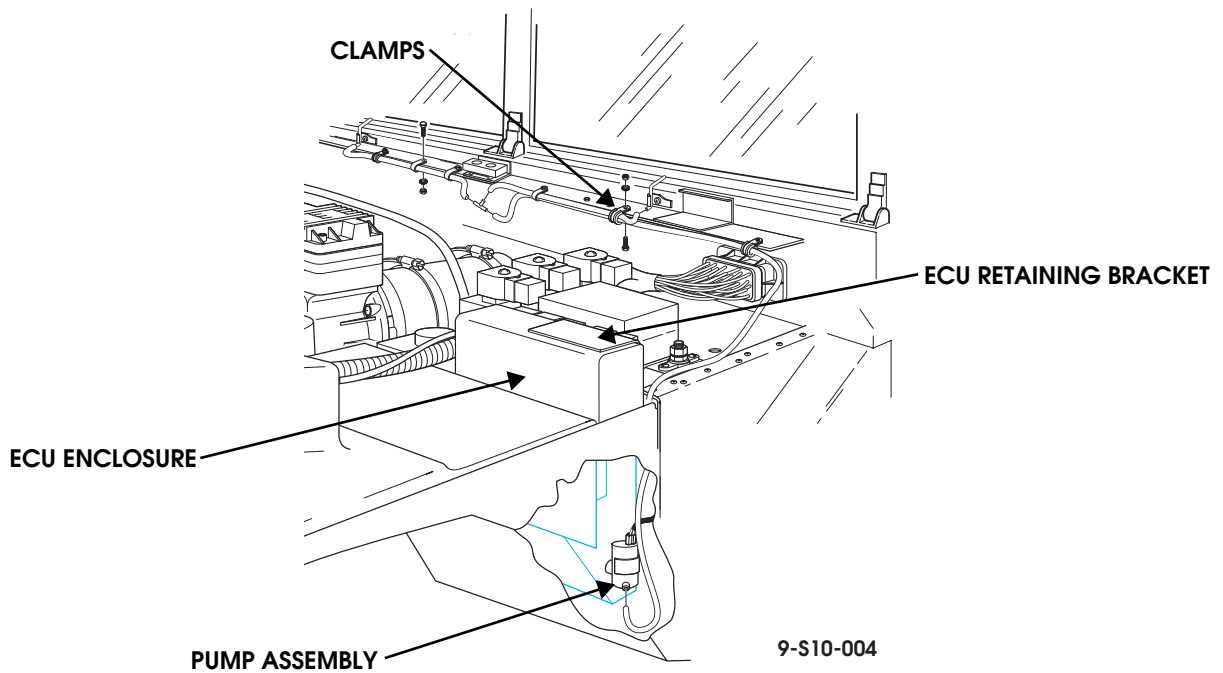

Figure 10-113: Windshield Washer Hose Replacement
1. Remove two nuts, washers, screws, washers, and clamps securing hose to body (Figure 10-113).